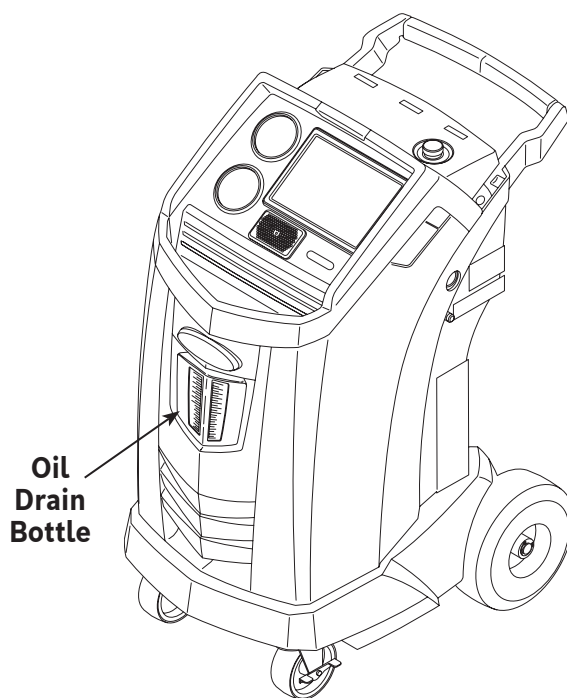

Figure 4
3. Remove the oil drain bottle (see Figure 4) from the Rob-inair machine. Drain the oil bottle, and dispose of the oil according to applicable regulations. Reinstall the oil drain bottle on the machine.